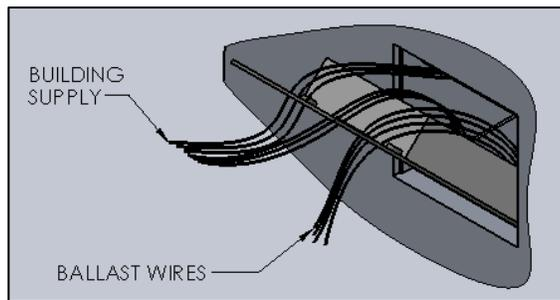

FIG. 14- DETAIL SHOWING BUILDING SUPPLY AND DRIVER WIRE CONNECTION
- Make BUILDING SUPPLY wire connections and tuck them into the top section of the box leaving the DRIVER WIRES out as shown in FIG. 14.